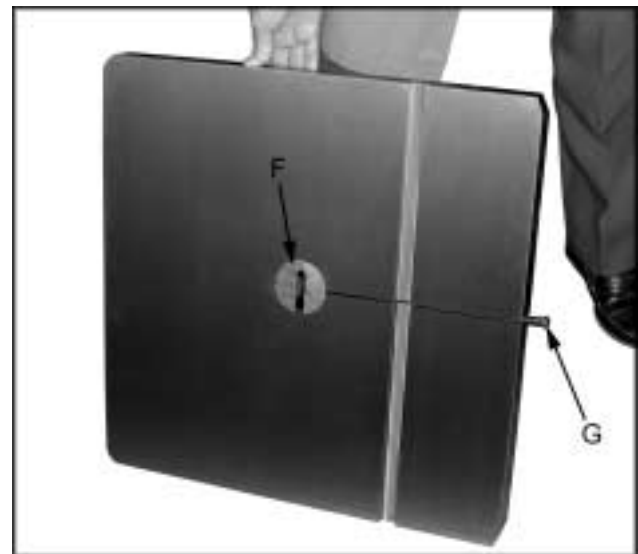

Fig. 5
1. With help from another person mount the table. Remove the table insert (F, Fig. 5) and table pin (G, Fig. 5).